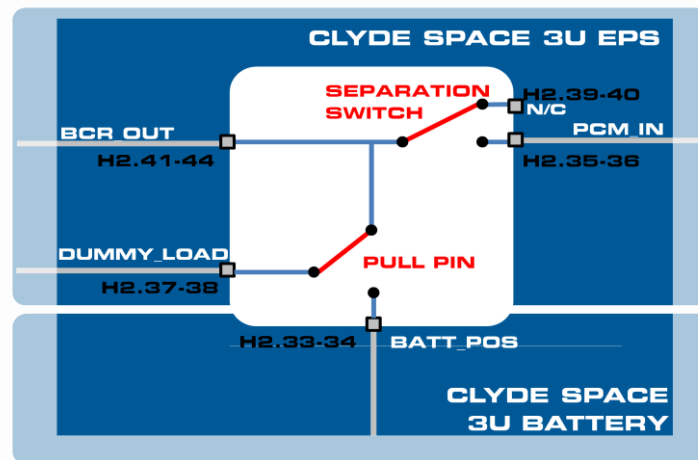

Figure 8-8 Switch Configuration Option 1
The Dummy Load is available as an additional ground support protection system, providing a load for the BCRs when the pull pin is inserted using the normally open (NO) connection of the Pull Pin. By connecting this Dummy Load to the NO pin BCR damage can be circumvented. The wiring arrangement for the dummy load is indicated in Figure 8-8.